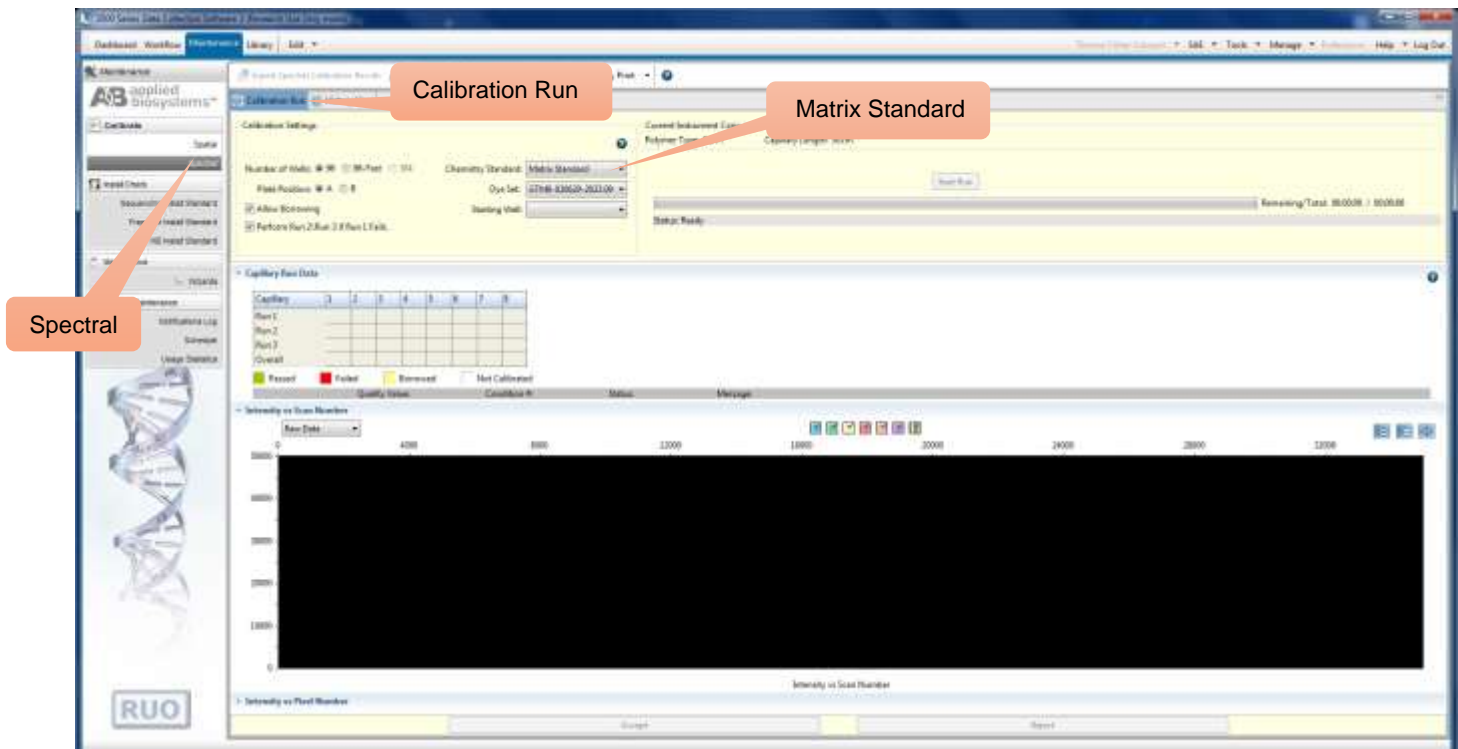

Figure 4- Screenshot for “Create New Dye Set Window” on Applied Biosystems® 3500 Genetic Analyzer
3. Fill the “Starting Well” position and keep the other settings as shown in Figure 4. Then select “Start Run”.